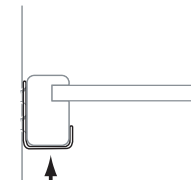

FIG. 4.7
- Secure shelf to all L-Hooks using #4 3/4" screws (Fig. 4.7)